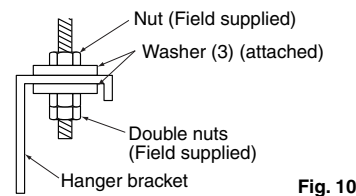

Fig. 10
- (1) Secure the hanger brackets to the suspension bolts. (Refer to Fig. 10)